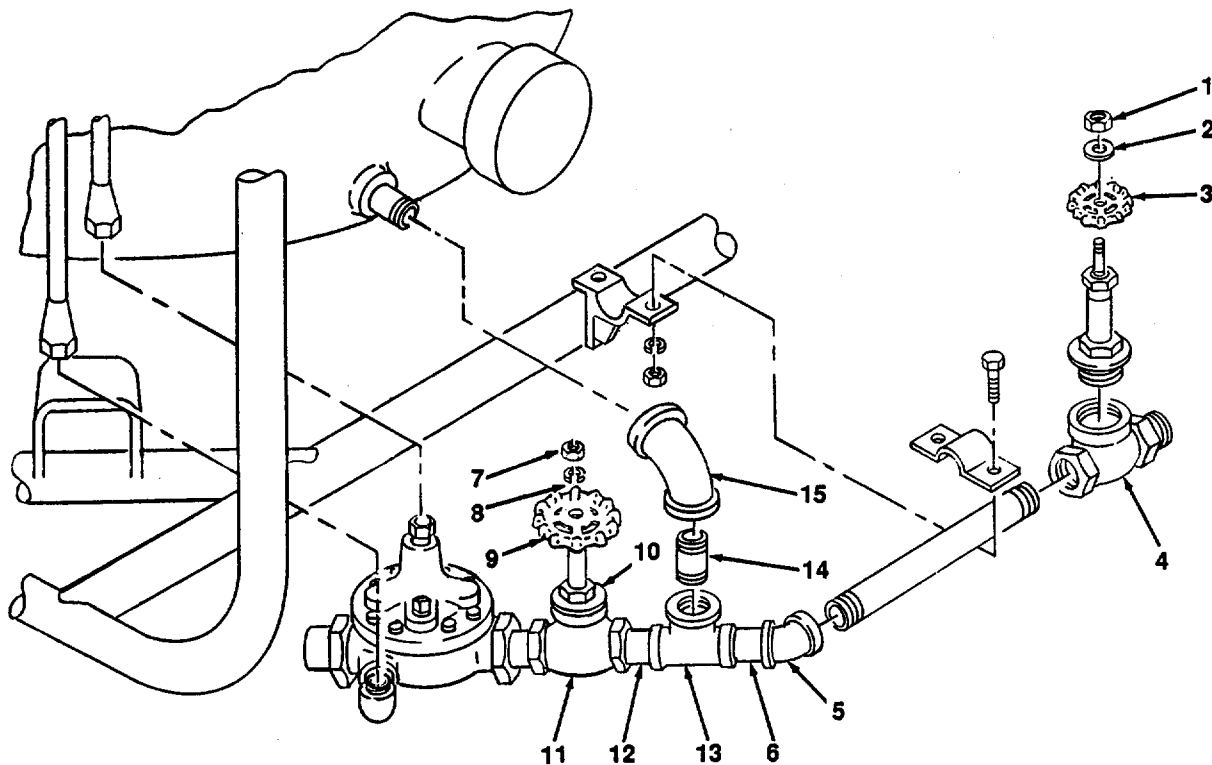

Figure 4-11. Manual Drain Valve, Replace.
a. Replace. (figure 4-11)
(1) Manual drain valve and fittings (removal).
- (a) Remove nut (1) and washer (2).
- (b) Remove hand wheel (3).
- (c) Remove valve body (4).
- (d) Remove elbow (5) and pipe nipple (6).
(2) Isolation valve and fittings (removal and installation).
- (a) Remove nut (7) and washer (8).
- (b) Remove handwheel (9).
- (c) Remove bonnet (10).
- (d) Remove valve body (11).